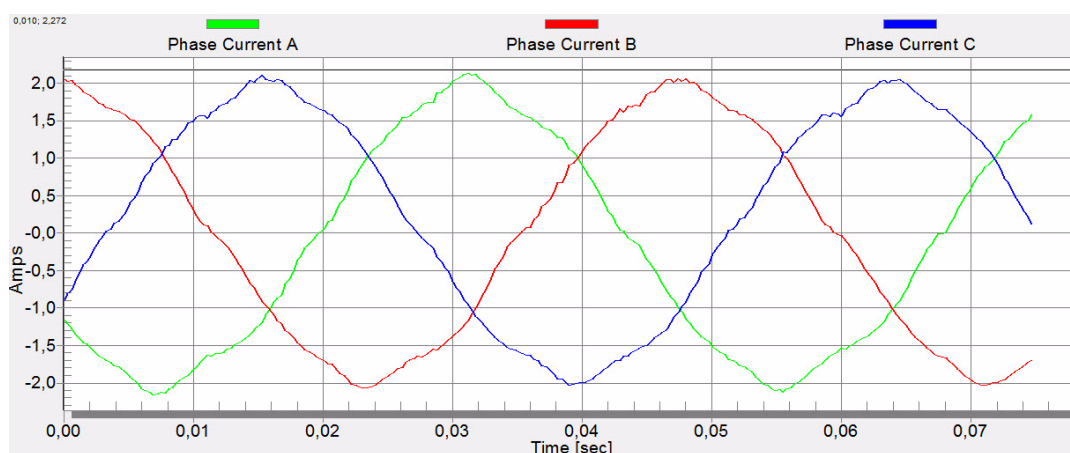

Figure 4. Phase Currents
6. Change the V/Hz factor directly or use the UP/DOWN buttons to identify the optimal ratio for the V/Hz profile. The shape of the motor currents should be close to the sinusoidal shape, see Figure 4.